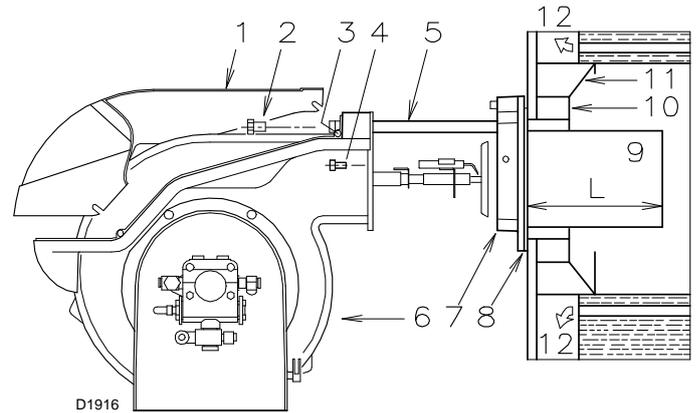

Fig. 10
The length of the blast tube 9)(Fig. 10) must be selected according to the indications provided by the manufacturer of the boiler, and in any case it must be greater than the thickness of the boiler door complete with its fettling.
For boilers with front flue passes 12)(Fig. 10) or flame inversion chambers, protective fettling in refractory material 10) must be inserted between the boiler fettling 11) and the blast tube 9).
Disassemble the blast tube 9)(Fig. 10) from the burner 6) by proceeding as follows:
- retract the burner on its slide bars as shown in Fig. 10 at page 16);